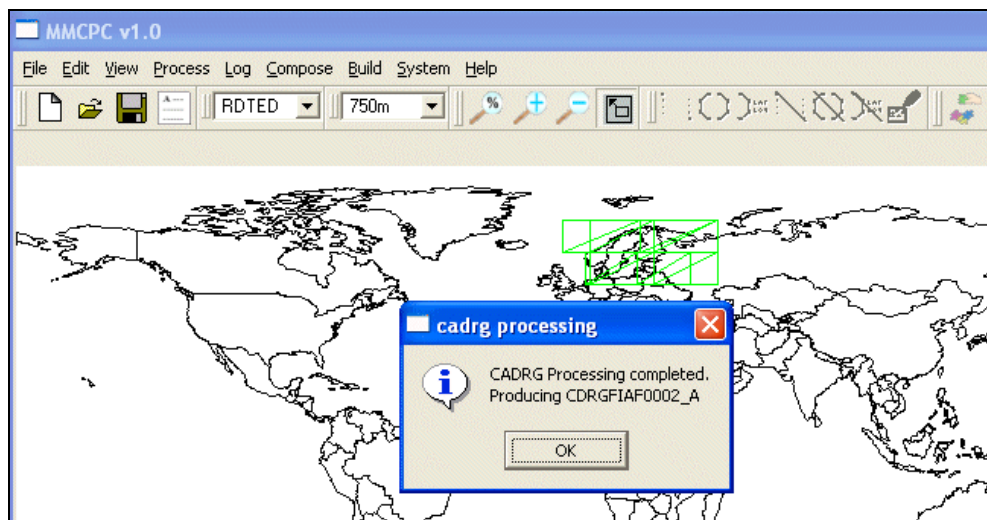

Fig. 47 — CADRG data processing completion notification
8. When a message is displayed that states the CADRG processing has completed, click OK (Fig. 47). MMCP automatically assigns an identification number for this data set and displays this identifier in the completion message. Make note of this identification number since all references to this processed map data throughout MMCP will be made by its identification number.